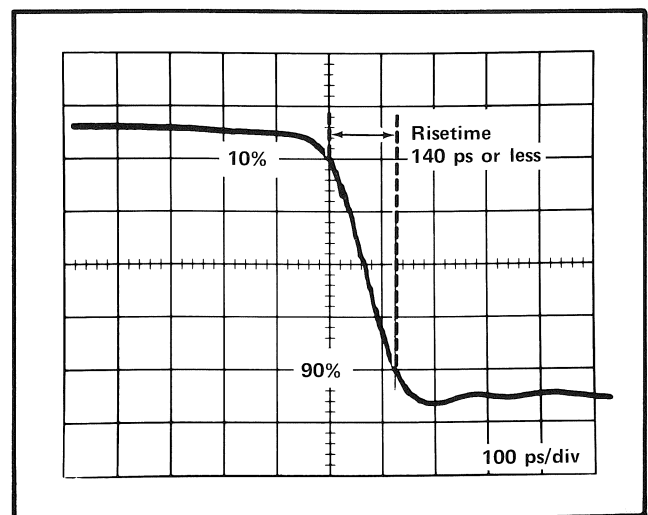

Fig. 5-5. Reflected pulse risetime measurement waveform (Step 13).
- Set the Sweep TIME/DIV switch at 100 ps and place the pulse trailing edge on the CRT. See Fig. 5-5.